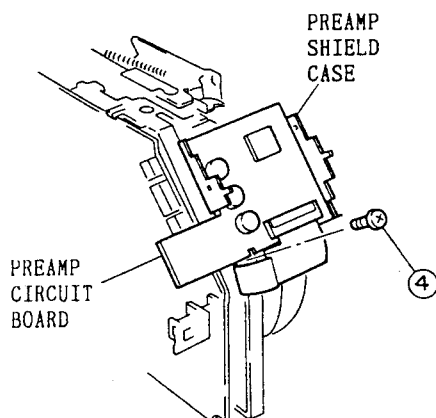

Fig. 2-33
4. Remove one (1) screw holding the preamp shield case. (See Fig. 2-33)